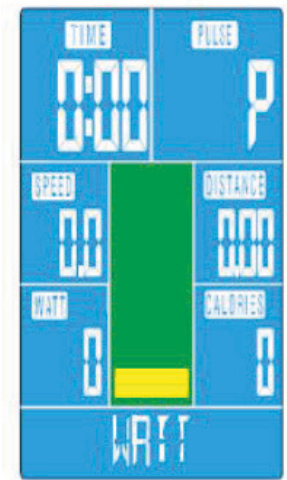

Fig. 17
1. Choose the program (Watt) and confirm the choice with the MODE button (see fig. 17).